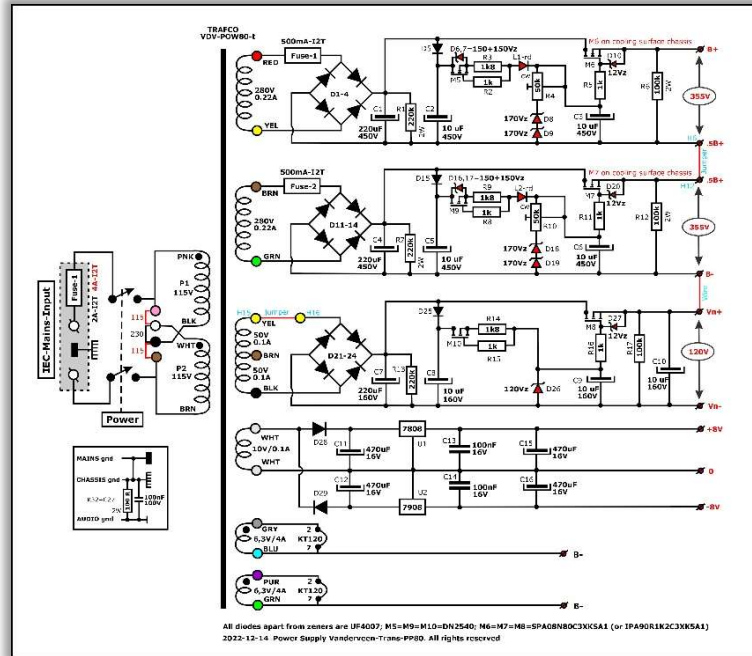

Figure-4-1: Original power supply circuit as published in audioXpress May 2023 pp 20-28.
- 4) **New power supply design to compensate for temperature-drift.** Some constructors informed us that the two 360 Vdc supply sections show some drift when the amplifier gets hot. We discovered that the 170 Vz zener diodes D_{8,9} and D_{18,19} were too sensitive for temperature change. Figure-4-1 shows the original supply circuit with this zener diode stabilization.